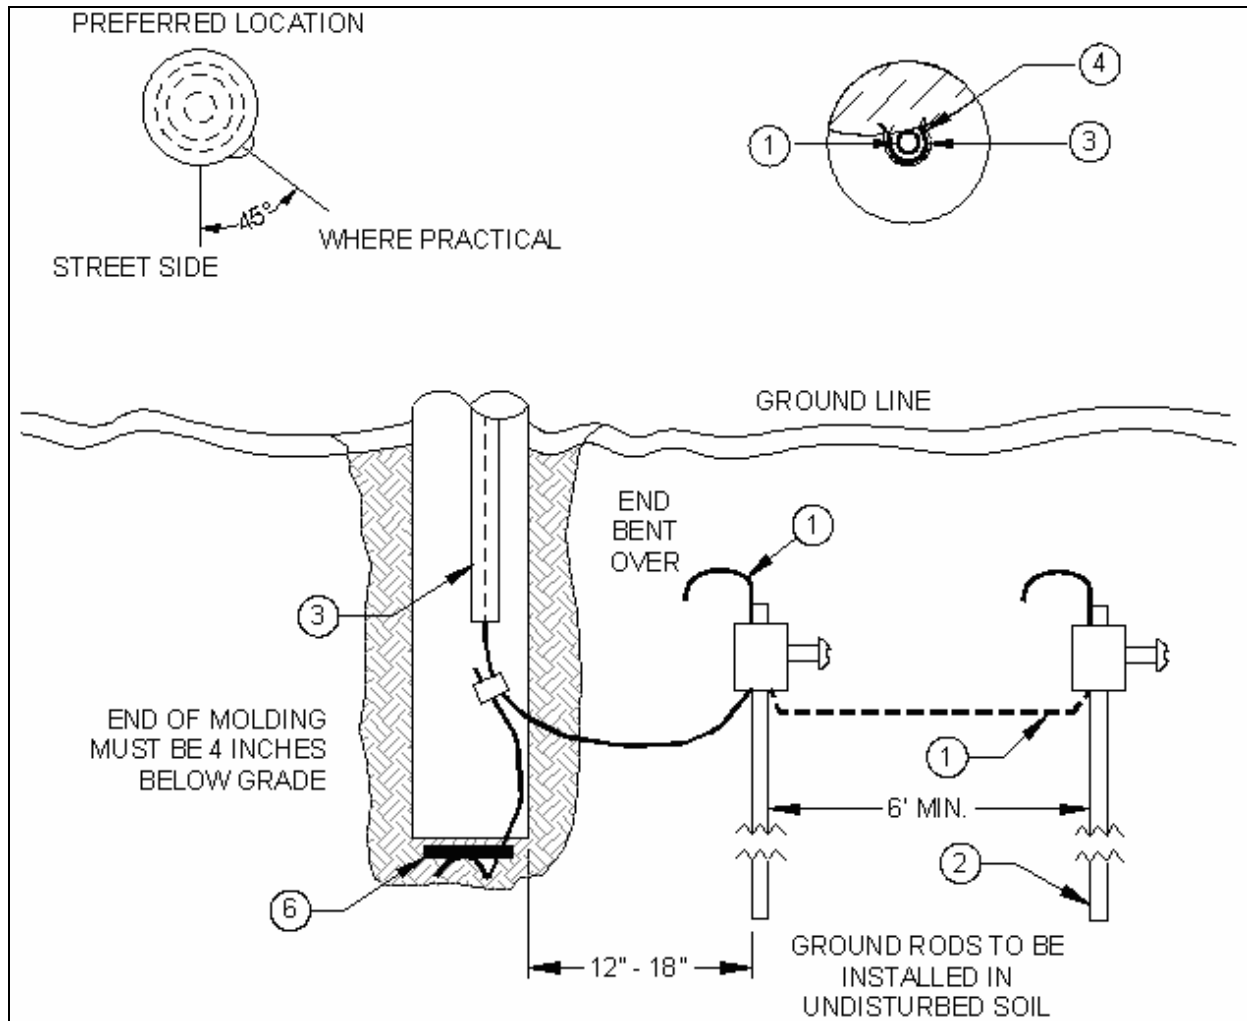

Figure 2 - Installations of Ground Rod and Butt Plate at Pole.
- B. Where practicable, a reading of 25 ohms or less between the underground and the earth is desired. If you are in an area where the soil conditions are highly resistive, (sandy, dry, less than ideal soil conditions...) install an additional ground rod above the first, resulting in a 16-foot driven ground. When rocky soil or other conditions prohibit driving ground rods to 16 feet, install the additional rod adjacent to the first no closer than six (6) feet to any existing rod, and connect rods with a bare #4 copper wire. See Figure 2.
- A. Attach #4 pole down grounds to driven ground rods in accordance with Figures 2 and 3 when a continuous metallic underground system is not available.